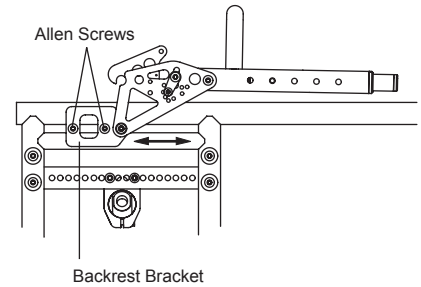

Figure 136
2. Loosen, but do not remove, the two Allen Screws that secure the backrest bracket to the frame on both sides of the chair. See Figure 136.